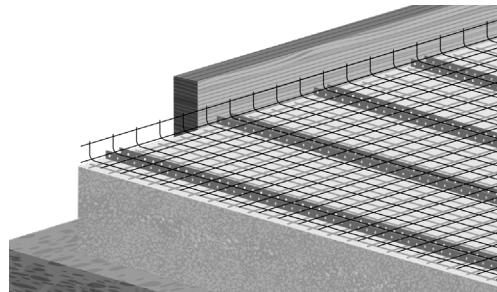

Fig. 14. Installing chicken wire
- The heating cable must be fastened between the joists to chicken wire or another non-combustible material. The chicken wire is fastened between the joists so that there is a minimum of 30 mm up to the backside of the flooring. Under the chicken wire, there must be insulation and the chicken wire cannot be placed directly on insulation (Fig. 14).